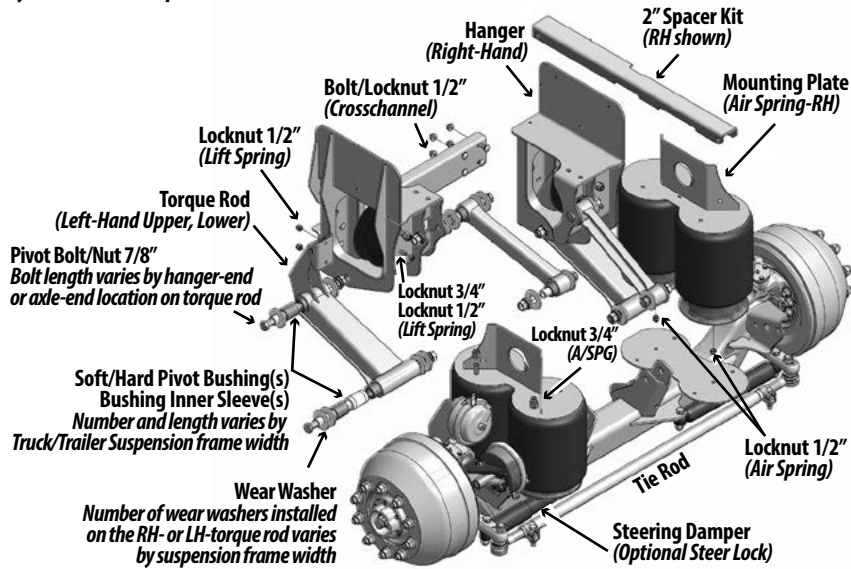

Figure 4.
- 5.1. Press replacement hard and soft bushings into the axle end of lower torque rod (Fig. 4 - Pg 9).